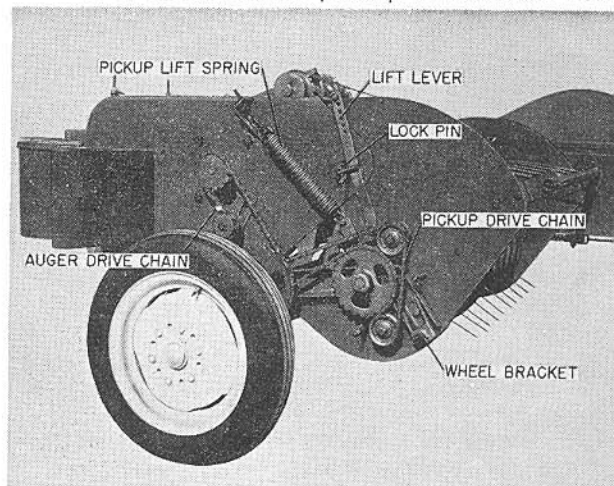

FIGURE 11
1. Disconnect the pick-up lift lever (Fig. 11) and raise the baler tongue until the left side of the pick-up is lower than the feeder plunger guide assembly.